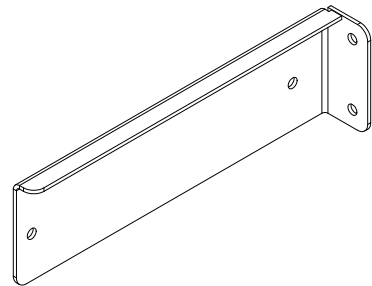
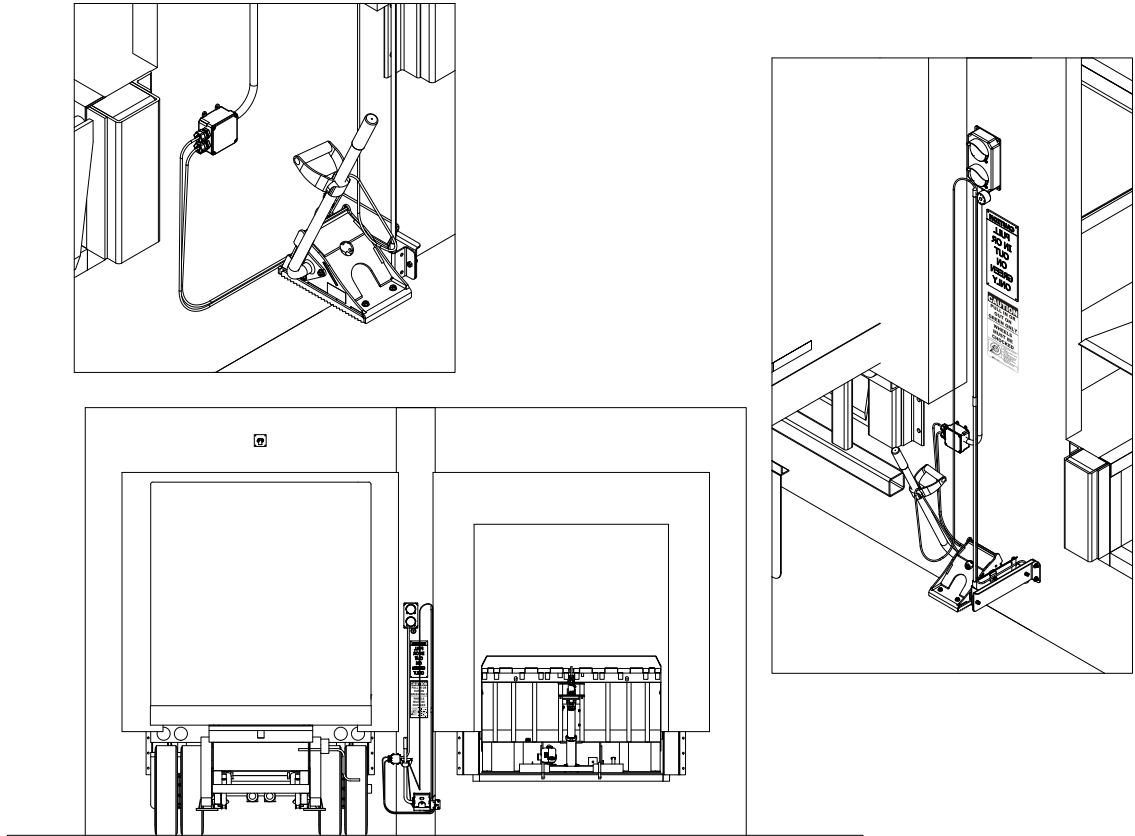

Figure 11
Figure 13
- b. An additional bracket to rotate storage bracket 90 degrees is required when distance between the door centerlines is less than 144". See Figure 11 and Figure 13.
- b. If mounting to additional bracket to rotate chock 90 degrees (optional). See Figure 11 and Figure 13.